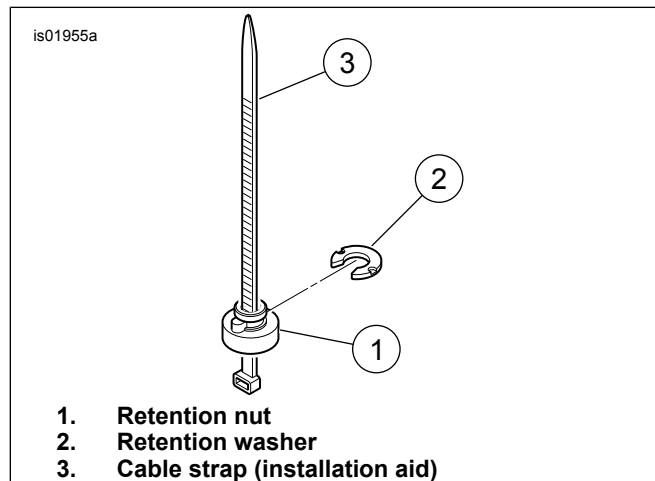

Figure 2. Install Retention Nut
- b. See Figure 2. Get the cable strap (3) from the kit as an aid to install the seat retention nut (1) and washer (2). Place the nut over the cable strap so the wide end of the nut rests on the eye of the strap. Thread the cable strap up under the fender and through the fender hole. Pull up on the cable strap to hold the seat retention nut snug against the underside of the fender.
- c. See Figure 2. Get the cable strap (3) from the kit as an aid to install the seat retention nut (1) and washer (2). Place the nut over the cable strap so the wide end of the nut rests on the eye of the strap. Thread the cable strap up under the fender and through the fender hole. Pull up on the cable strap to hold the seat retention nut snug against the underside of the fender.
- c. See Figure 2. Use the cable strap (3) as an aid to install the seat retention nut (1) and washer (2) from the retention nut kit. Place the nut over the cable strap so the wide end of the nut rests on the eye of the strap. Thread the cable strap up under the fender and through the fender hole. Pull up on the cable strap to hold the seat retention nut snug against the underside of the fender.
3. **FXSTC models** require installation of a Seat Nut Kit (Part No. 59768-97, purchased separately) at the rear seat mounting hole location (2).